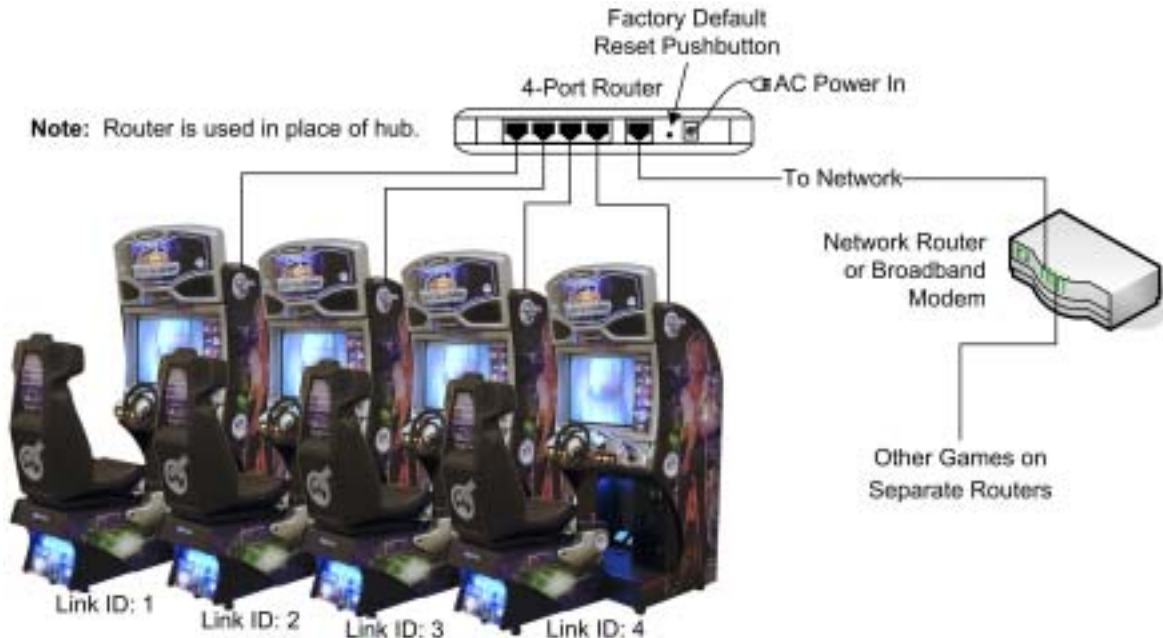

Figure 8. Linking Cabinets with Broadband
3. The router must be configured to Factory Default Settings. If you have used the Router before, or changed its settings, press and hold the reset pushbutton (shown in Figure 8) until the Test LED turns on (about 10 seconds).
5. Connect an Ethernet cable to the Ethernet connector on the power plate of each cabinet, and to router ports 1—4 as shown in Figure 8. **Do not** use crossover couplers.